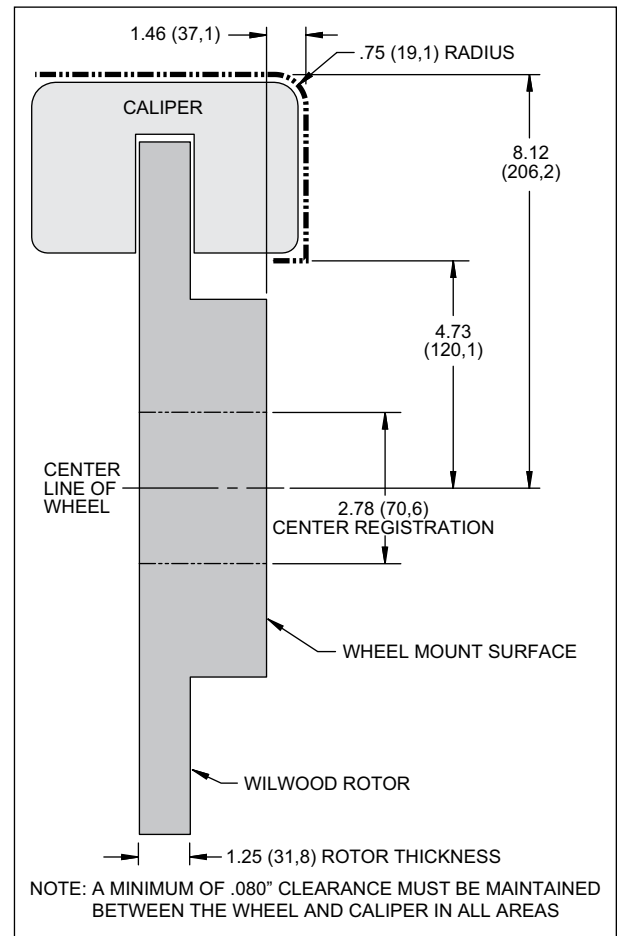

Figure 2. Wheel Clearance Diagram
- This kit will fit most 18" and larger wheels, please refer to wheel clearance diagram (Figure 2, page 3) for your specific requirements. For ALL other wheels, consult the wheel clearance diagram (Figure 2, page 3) to determine compatibility. Parts that have been installed may not be returned or exchanged.
- Make sure this is the correct kit to fit the exact make and model year of your axle and wheels. This kit is designed for direct bolt-on installation to 1997 through 2013 model year Chevrolet C5 and C6 Corvette hubs, but requires minimum of 18" diameter wheels. Check wheel clearance diagram, Figure 2.
- Verify your wheel clearance using Figure 2.